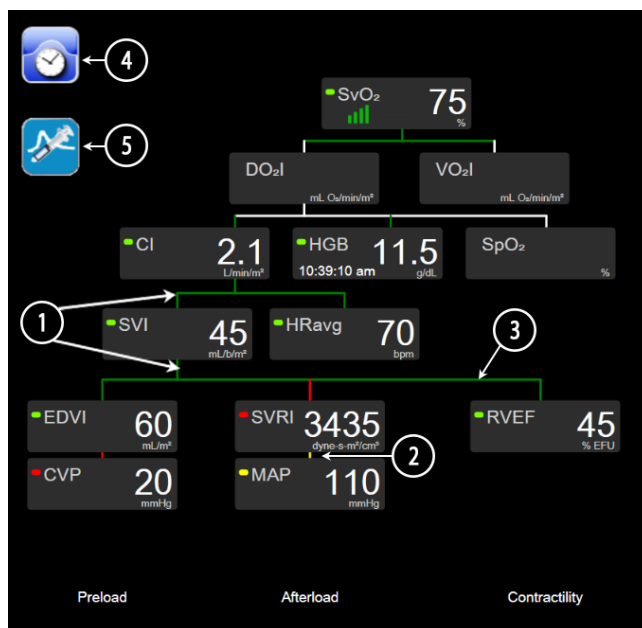

Figure 5-14: Physio relationship screen while monitoring with HemoSphere Swan-Ganz module
2. Vertical lines that directly connect two parameters will appear in the same color as the parameter lantern below (for example, between SVRI and MAP in Figure 5-14 on page 104).
4. The left bar appears after a bolus set is performed. Touch the clock/waveform icon to display historical data when available (see Figure 5-14 on page 104).
The example shown in Figure 5-14 on page 104 is while monitoring with a HemoSphere Swan-Ganz module. Differences in appearance and parameters will occur with other monitoring modes. For example, while monitoring within minimally-invasive monitoring mode, HR_{avg} is replaced by PR, PPV and SVV appear (if configured), and EDV and RVEF are not shown.